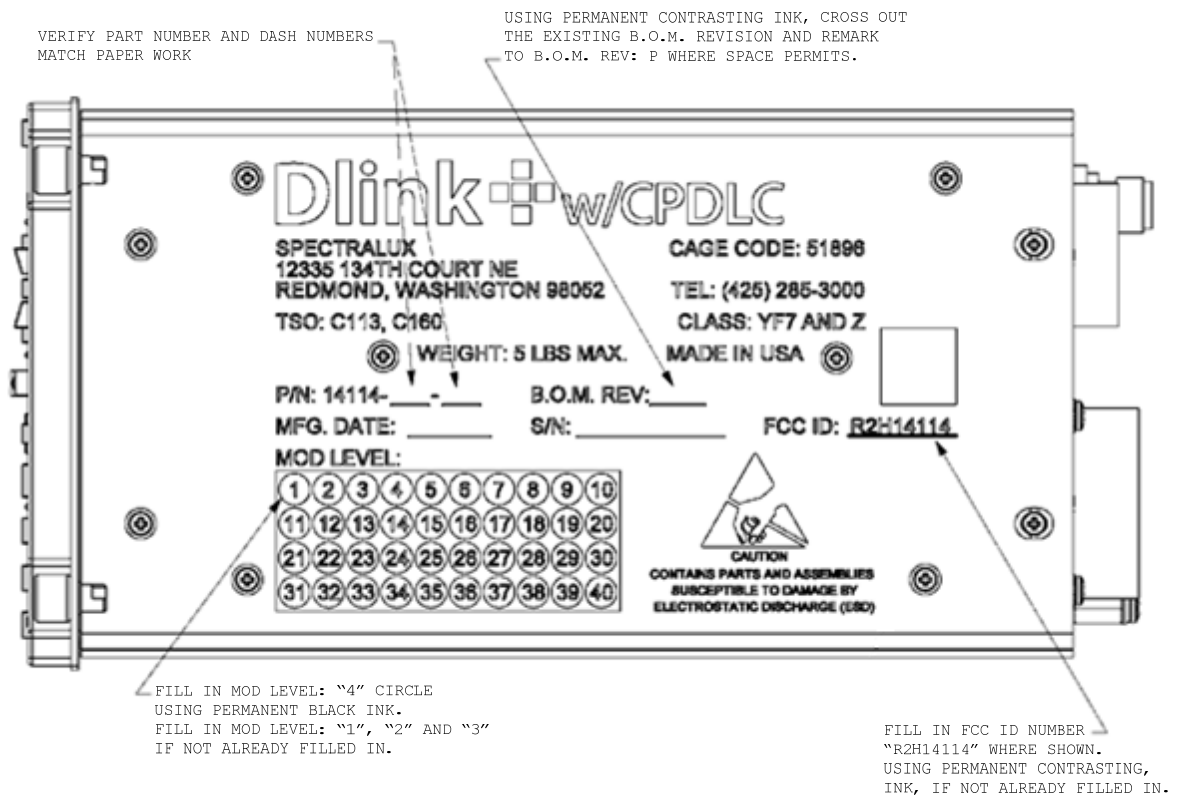

Figure 4 – Mod 4 Label Marking
- (1) Mark the unit label according to Figure 4 – Mod 4 Label Marking.
- (2) Perform SB – 14114-23-08 or later service bulletin updating the TSAP database, if not done already on this unit.